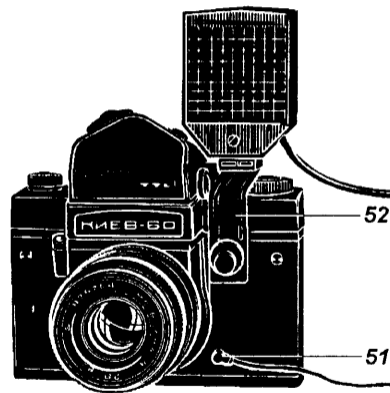

Fig. 17
**(For K-60)** For mounting the flash units the special support 52 with standard accessory shoe is supplied in a complete set of the camera. It attaches to the camera with the help of a special nut (fig. 17).